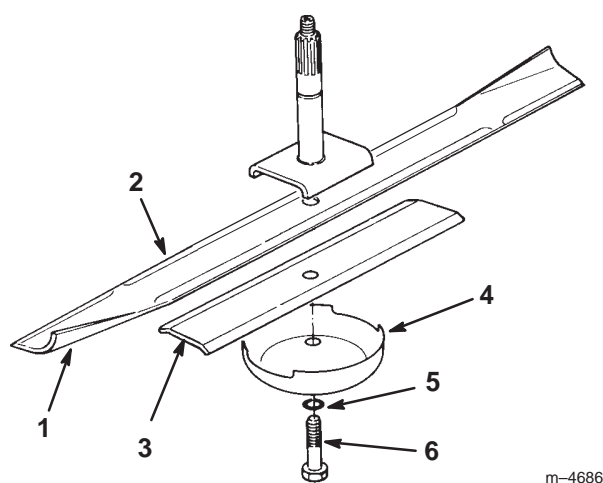
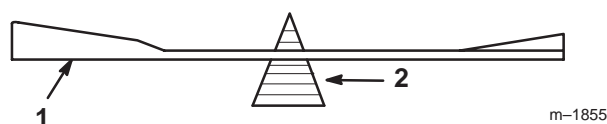

Figure 13
Figure 15
Hold the blade end using a rag or thickly-padded glove. Remove the blade bolt, lock washer, anti-scalp cup, blade and spacer from the spindle shaft (Fig. 13).
2. Check the balance of the blade by putting it on a blade balancer (Fig. 15). If the blade stays in a horizontal position, the blade is balanced and can be used. If the blade is not balanced, file some metal off the end of the sail area only (Fig. 13). Repeat this procedure until the blade is balanced.
1. Install the spacer and blade onto the spindle shaft (Fig. 13).
2. Install the anti-scalp cup, lock washer and blade bolt (Fig. 13). Torque the blade bolt to 85–110 ft-lb (115–149 N•m).